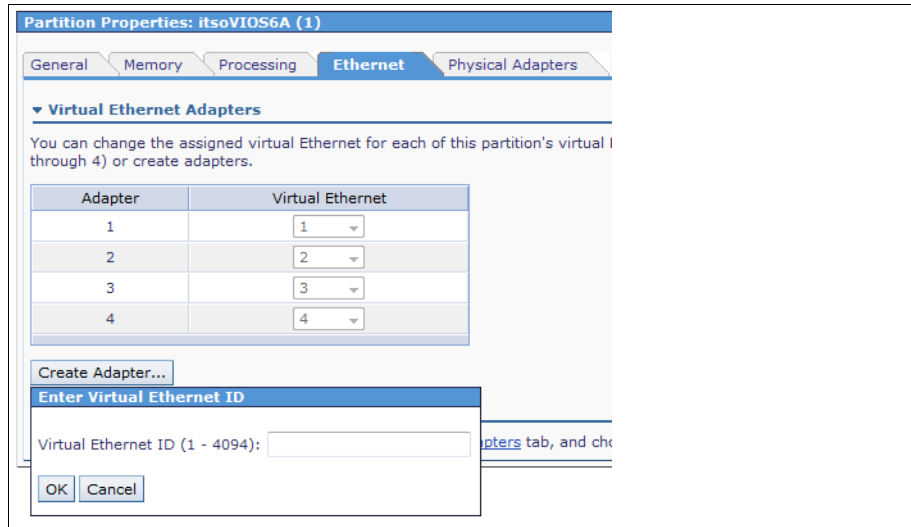

Figure 8-60 IVM Partition Properties Ethernet tab
- Click the **Ethernet** tab (as shown in Figure 8-60) to view the existing virtual Ethernet adapters, IVM creates four adapters by default. More virtual Ethernet adapters can be created from this tab, if needed.